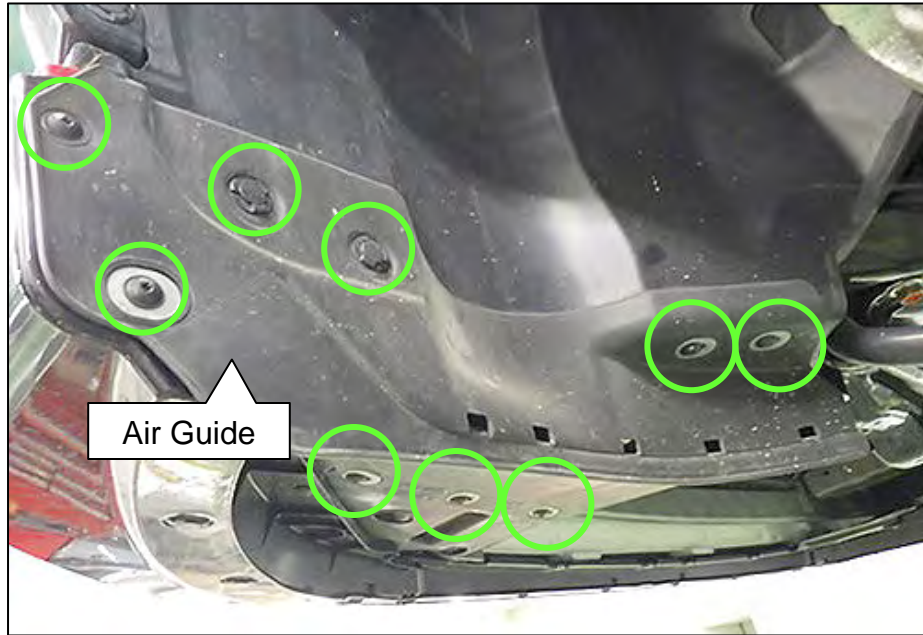

Figure 179
209. Install the driver (LH) side Air Guide (Figure 179).
- Seven (7) screws and two (2) clips.